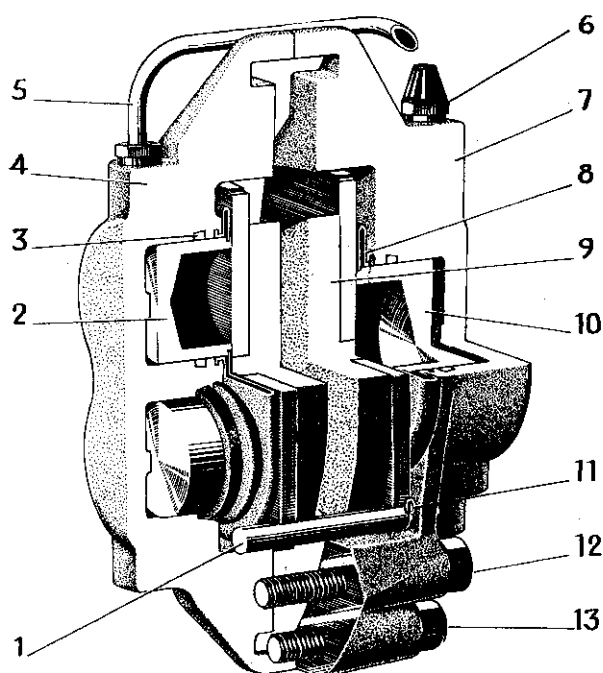

Fig. 14. Front wheel brake unit.
In this arrangement the front wheel brakes are of the disc type. The discs (11, Fig. 3) are made of steel and are attached to the hubs with which they rotate. At each steering knuckle there is a retainer for the wheel unit cylinders and brake pad assemblies, in future called the front wheel brake unit (1). In addition, protecting plates for the brake discs are attached to the steering knuckles. The brake pad assemblies (9, Fig. 14) are provided with moulded-in linings. During braking, one of the linings is pressed against the inner face of the brake disc by a large hydraulic plunger (10) and the other against the outer face of the disc by two smaller plungers (2). When braking ceases, the linings move back such an amount that they are always at a certain minimum distance from the brake disc, so that the front wheel brake units are self-adjusting.